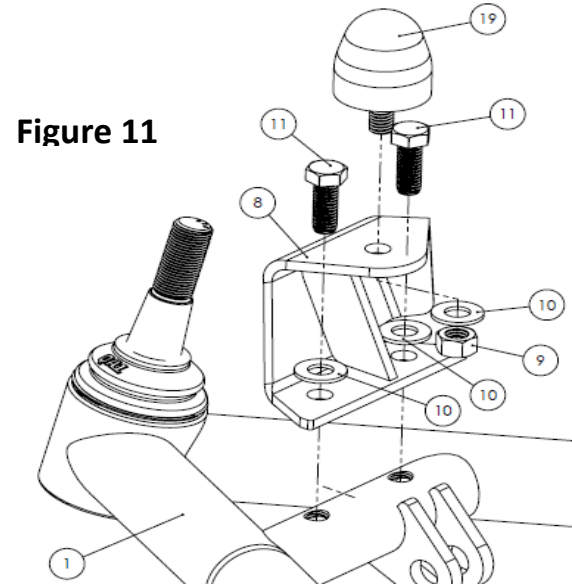

Figure 11
8. Install the bump stop on the bump stop mount using a 3/8" nut and washer. Install the bump stop mount on the lower control arm with the supplied 3/8" x 1" bolts, washers and nuts. Torque to 30 lb. ft. **Figure 11.**